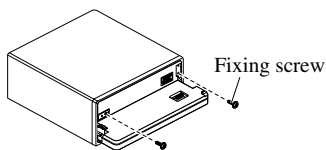

Fig. 15
4. Fix the front panel to the unit using fixing screws. (Fig. 15)